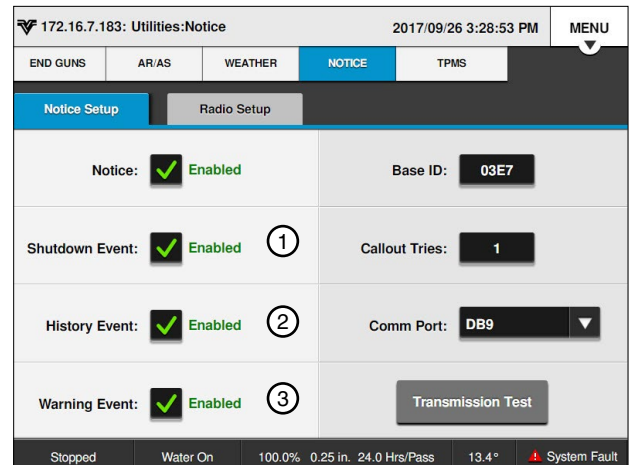

Figure 77-1 1. Shutdown Event 3. Warning Event
1. Push **Menu, Utilities, Notice** and **Notice Setup** to display the Notice screen. Refer to Figure 77-1.